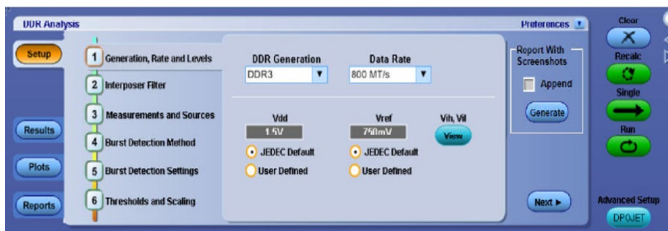

Figure 7. Snapshot of DDR3L Compliance Test Suite
- The following compliance testing setup (Figure 6. DDR3L Compliance Testing Setup) on page 7 is used with the test suite (Figure 7. Snapshot of DDR3L Compliance Test Suite on page 7):